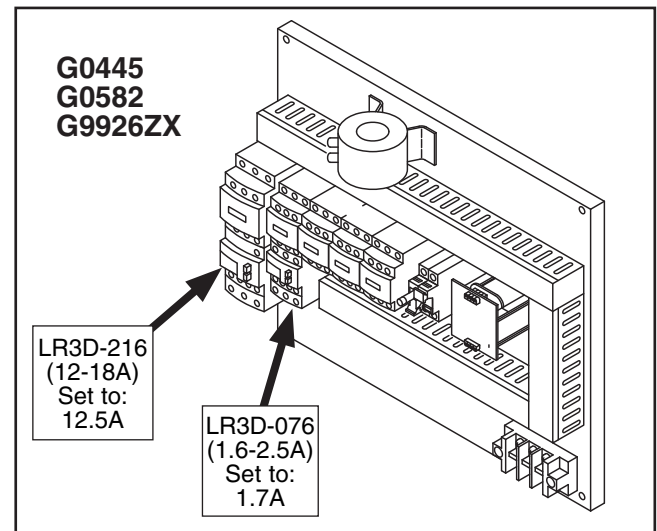

Figure 8. Overload relays.
4. Swap out the applicable thermal relay at the locations shown in **Figure 8**, and set it to the overload values listed.